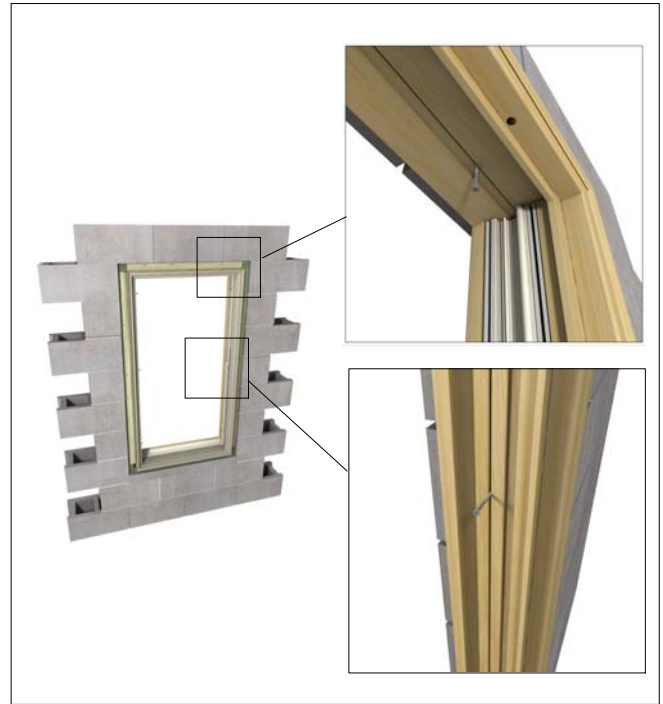

Figure 9: Exterior View, fastening through WUDH frames.
4. On **Wood Ultimate Double Hung** units, locate the screw in the jamb carrier kerf (jambs) and in the kerf used to hold the parting stop (head jamb). Make sure to countersink the screw so that it doesn't interfere with installation of the jamb liner and/or parting stop. See figure 9.